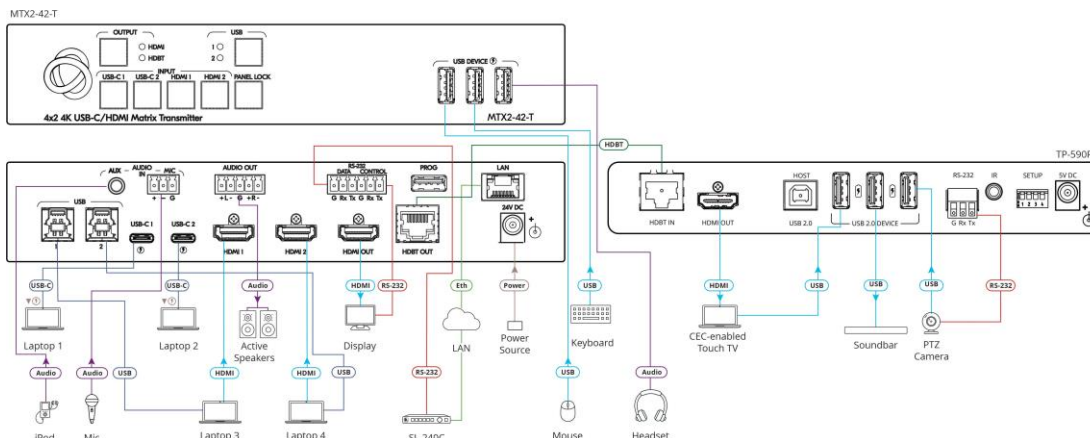

Figure 3: Connecting to the MTX2-42-T Rear Panel
**To connect MTX2-42-T as illustrated in the example in Figure 3:**